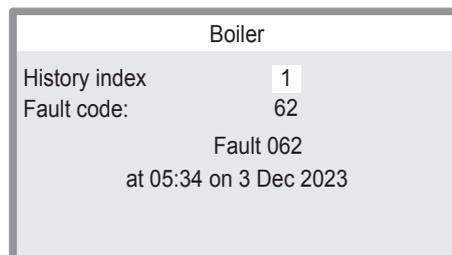

Figure 4.6
- 7 Press key "F" or "G" (Figure 4.1) to select the alarm history index (Figure 4.6).